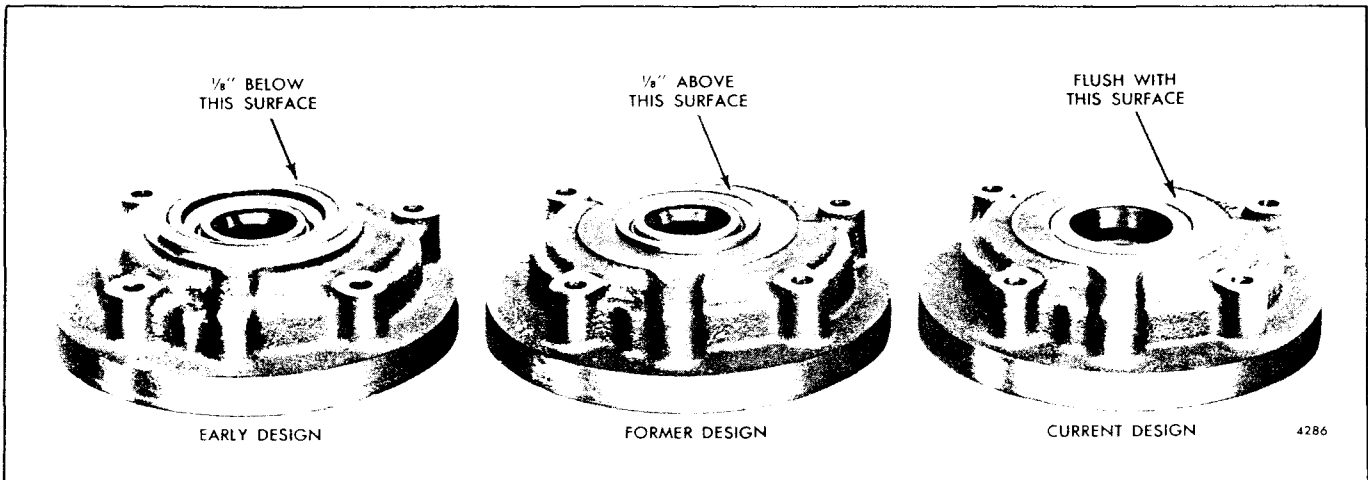

Fig. 82 - Position of Oil Seals Installed in Marine Gear Oil Pump Housings
Refer to the record taken at disassembly or Fig. 82 for the installed seal position in the reverse gear oil pump housing and proceed as follows:
**NOTE:** On the early design oil pump housing, the oil seal was pressed in  $1/8$ " below the outside face of the housing (Fig. 82).